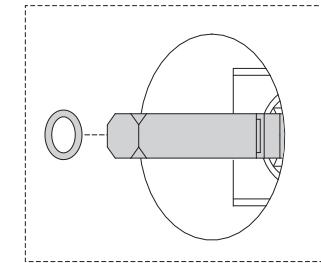

Figure 5.
- 6.2 Roll rubber stopper over opposite end until it locates within the groove. (Figure 5)